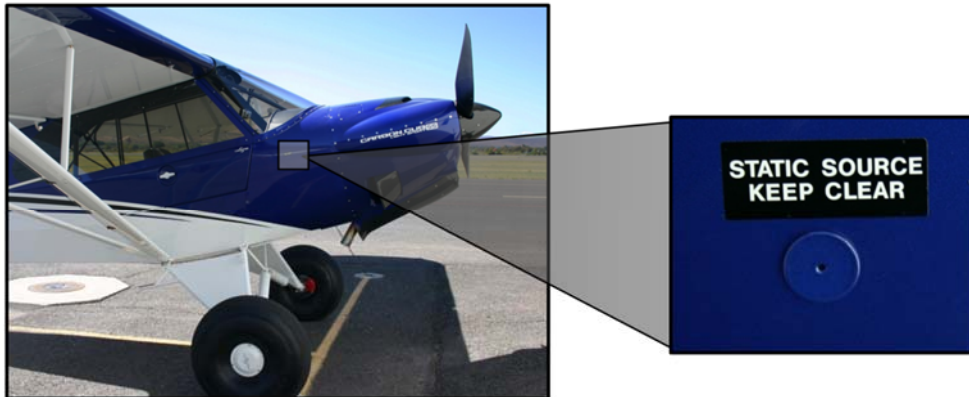

FIGURE 17 - Final Assembly Reference
31. Install static port placards above each static port (see Figure 17 below).